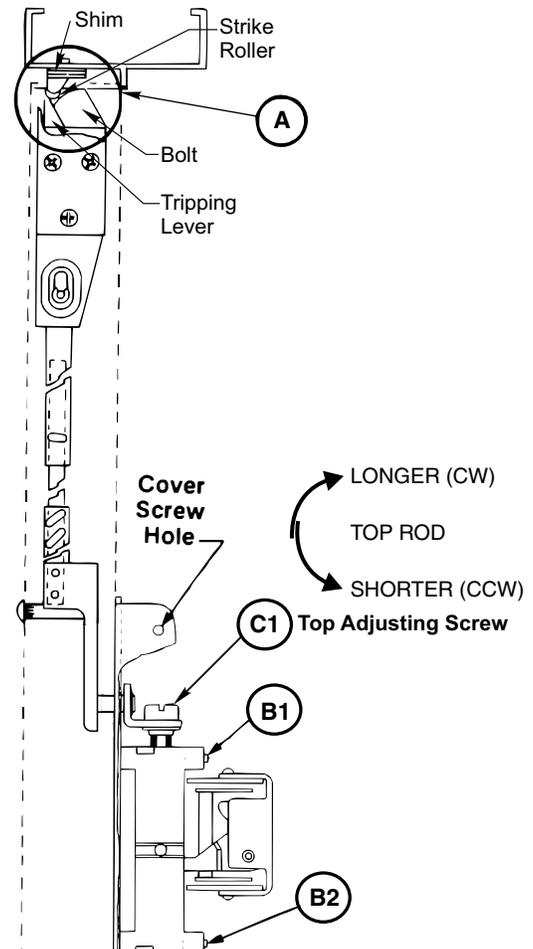

Figure 21
- A. Rehang door plumb and in accordance with the opening. Set strike roller between tripping lever and bolt. **DO NOT PRELOAD BOLT.** Shim strike as needed. (Figure 21)
1. Use 3/32" (2.4) hex wrench to loosen set screws B1 and B2. (Figure 21)
2. Adjust top rod first with adjusting screw C1. (Figure 21) With device in dogged position (panic devices) or touchbar fully depressed (fire devices) adjust top rod so top latchbolt is flush and hold back feature is engaged. Lengthen top rod an additional 1/2 turn for proper latchbolt positioning.